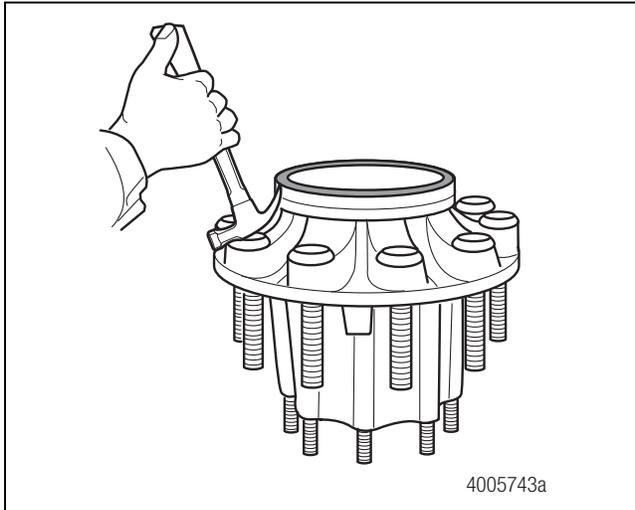

Figure 4.7
3. Be careful while using a small pry bar or hammer to remove the wheel from the hub. It could bend and damage both components. Use a circular pattern around the wheel to remove it from the hub. Figure 4.7.